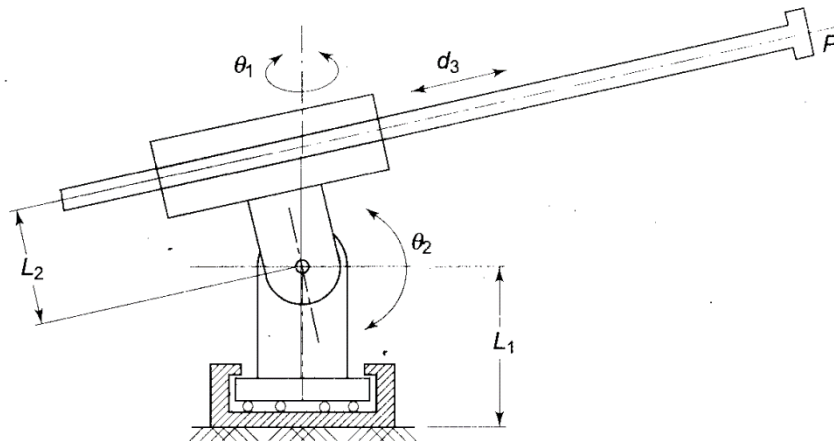

Figure 4
- (c) For the 3-DOF industrial arm shown in Figure 4, design a linear trajectory with parabolic blends. The initial and final position of the end-effector is expressed by homogenous transformation matrices T_s & T_g given below and time taken for traversal is 5 seconds.
Homogenous Transformation Matrices for Industrial Arm in Figure 4:
Inverse Kinematics for Industrial Arm in Figure 4: